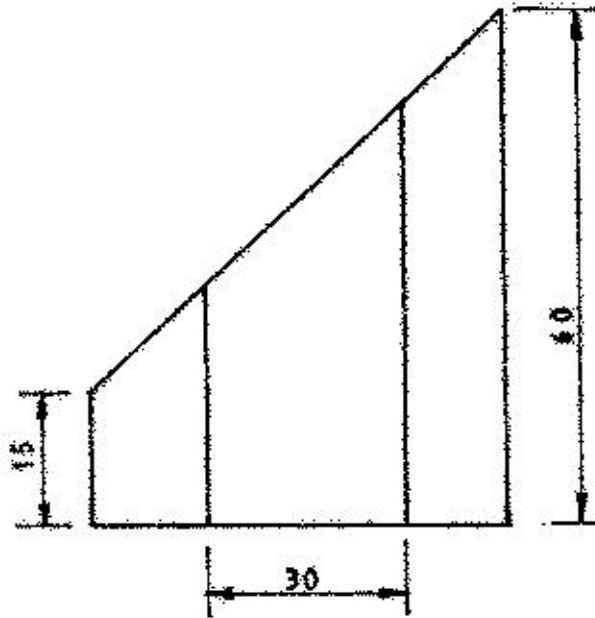

Fig. 3
3. Figure 3 shows a truncated hexagonal prism. Draw the given view and the following: